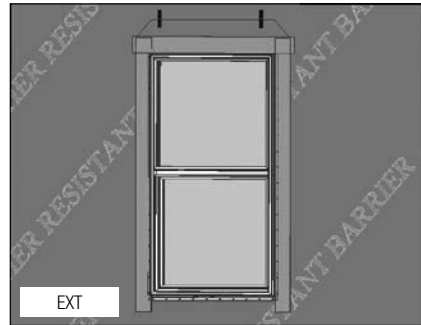

FIG. 13
- C) Cut and apply head flashing. The head flashing should run slightly past the edge of the side flashing as shown. (Fig. 13)